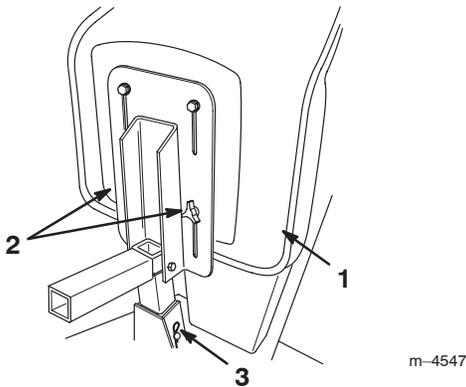

Figure 7
3. Loosen the knobs on the bottom of the seat (Fig. 7) and slide the seat forward or back as needed.
4. To adjust the seat height, remove the hairpin cotter and pin from the seat stand (Fig. 7) and raise or lower the seat as required.